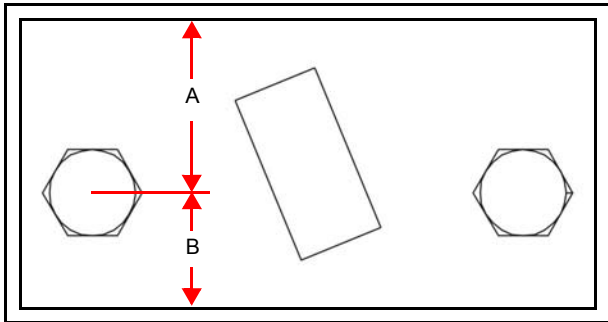

Figure 5-33 Bolt-on Arm Bracket
Not all "T" style arm bracket bolt holes are symmetrical, and can be installed upside down (Figure 5-33 only).
12. Before transferring the layout marks for the holes to the bed, take care to use the correct arm brackets, right hand vs. left hand, and the correct orientation, bolt holes down per Figure 5-33. Compare to the four corner brackets and double-check placement with the supplied drawings.